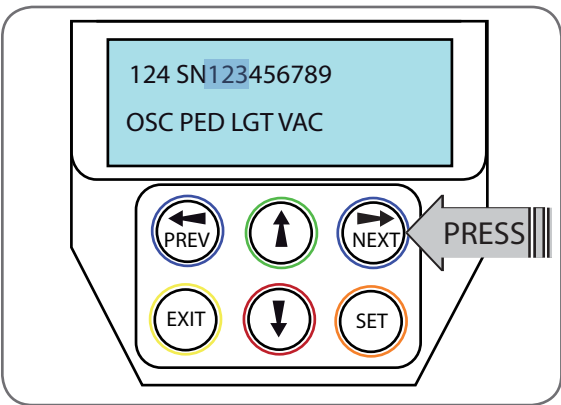

Fig F.4
- e. Press NEXT to reveal the Serial Number (**Fig. F.4**).